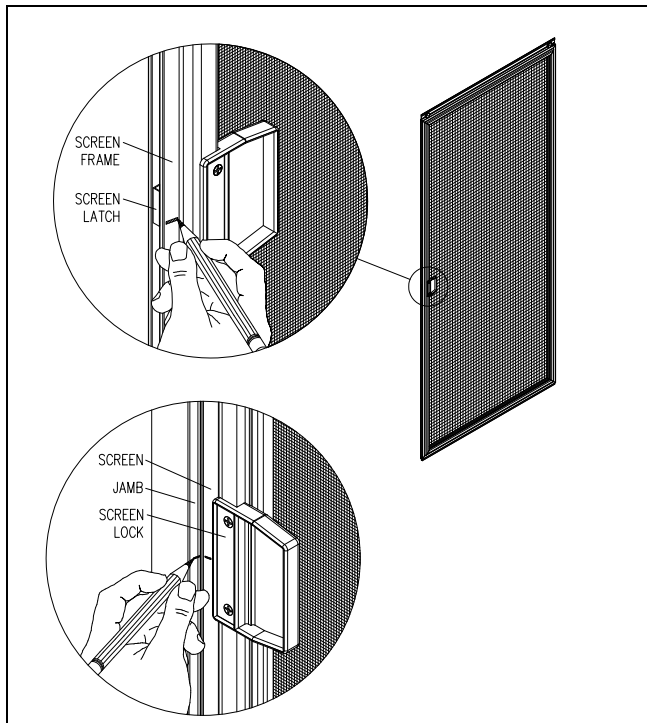

Figure 4
1. To install the screen lock on side (or center) jamb, raise (unlock) the screen latch. Open the screen and lightly mark the bottom location of the latch with a pencil on the exterior face of the screen. Close the screen against the jamb. Transfer latch location from the screen frame to the jamb. See Figure 4.